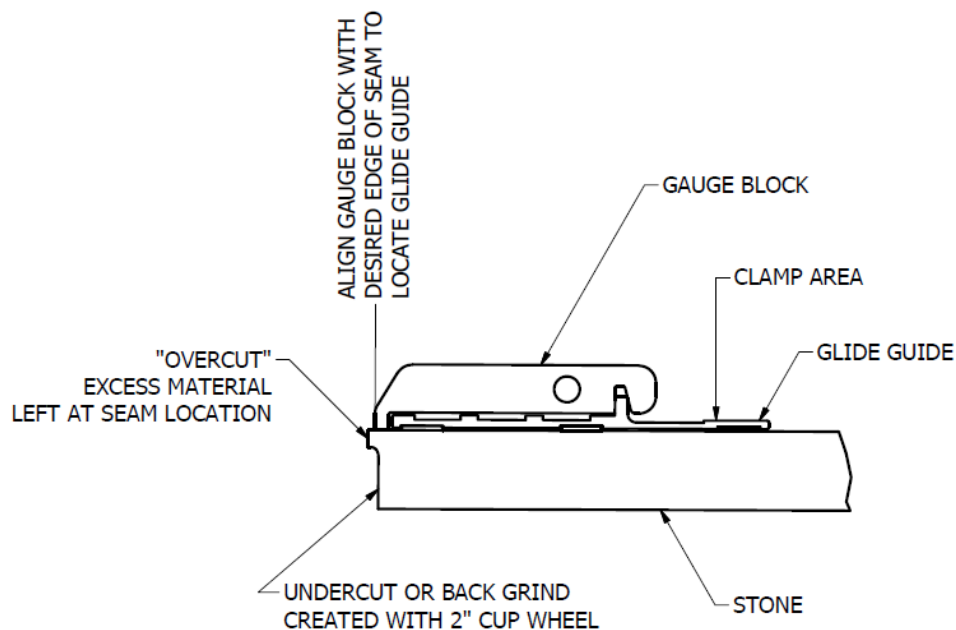

FIGURE 4 – Gauge Block Use
Do not let water into the motor of the electric grinder. Water inside the machine will weaken the electrical insulation of the motor and may result in electric shock. Ensure the spray skirt (see Figure 4 to 7) and splash guard angle (see Figure 3) are installed at all times during use.
3. Use two gauge blocks to line up the Glide Guide straight edge parallel to the seam. See Figure 4 below.